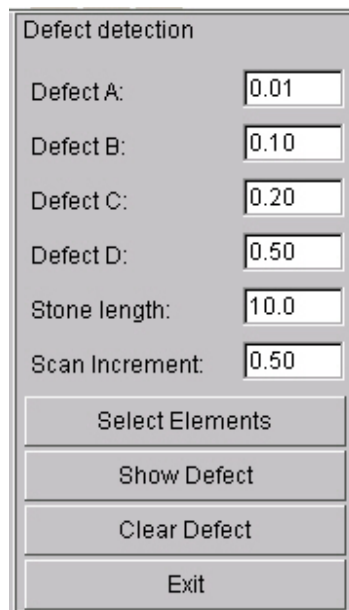

Figure 7.13.2 Defect Detection
4. The **SHOW DEFECT** and **CLEAR DEFECT** functions will be activated as shown in Figure 7.13.2.